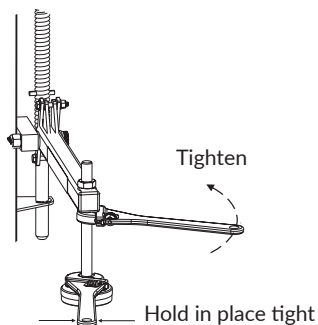

Figure 6-5
5. Lower the platform about 5" to relieve pressure from the scooter's deck. While holding the stationary nut in place, run the bottom nut up to the hold-down arm and tighten. *See Figure 6-5.*